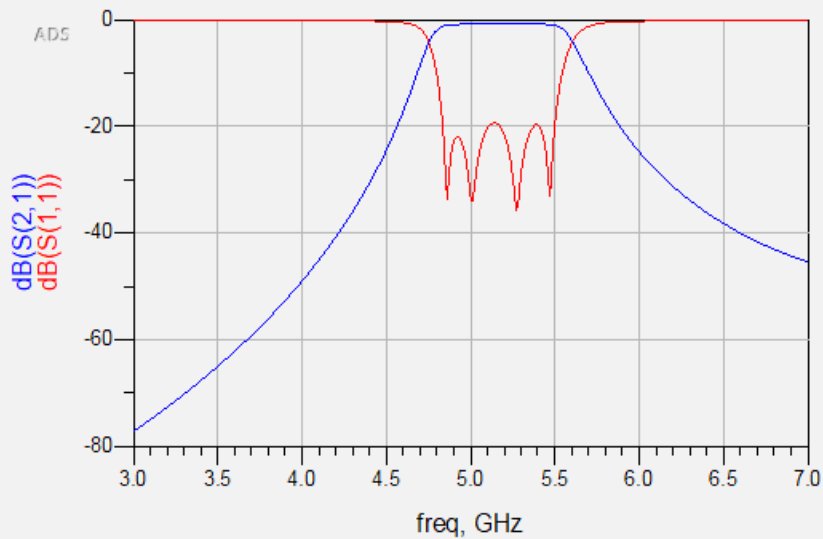

Figure 4. Output Graph of Bandpass Filter
4. Run the simulation and observe the results by plotting S(1,1) and S(2,1). The bandpass filter should look like what is shown in Figure 4.